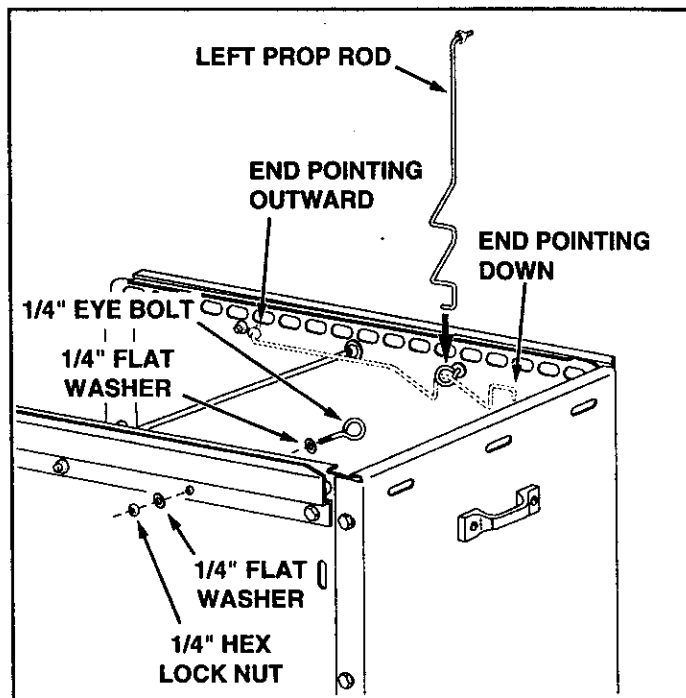

FIGURE 15
- Place a 1/4" flat washer onto a 1/4" eye bolt and insert the bolt through the second hole from the front in the side panel and side bracket. Assemble another 1/4" flat washer and a 1/4" hex lock nut onto the bolt. **Tighten**, leaving the nut loose enough that the eye bolt turns freely. Repeat on other side. See figure 15.
- Insert the left prop rod through the eye bolt and temporarily rest it on top of the tie rod as shown in figure 15. Make sure the hook end of the prop rod points down and the threaded end points outward. Repeat for the right prop rod.